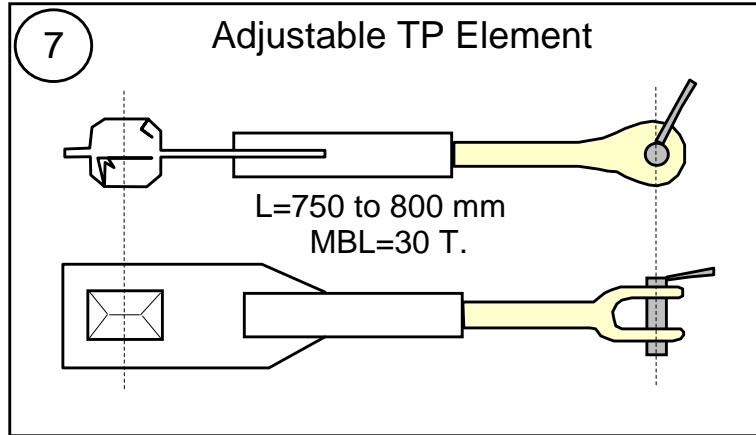

Fig. 3-7
Fig.. 4 shows the fixed securing arrangements for 20' containers in Hold 3. Here, 20' containers are stowed athwart ship (3 rows) and can go upto 4 tiers. The diagram shows the apertures/raised pots (4 x 3 available) for the bottom locks (twist locks) and the fixed foundations for the Thrust Pad (TP) Elements. See Fig. 3-7. for details of TP Elements.